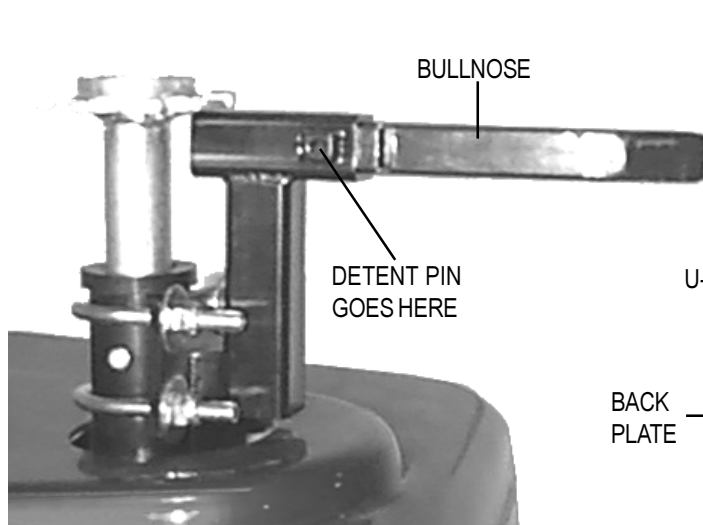

FIGURE 18.
NOTE: The C-arm can also be used with this device, simply by inserting a bullnose instead of the pick-up bar. See figure 18.
2. Place the back plate of the docking device against the front of the seat post. See figure 18.